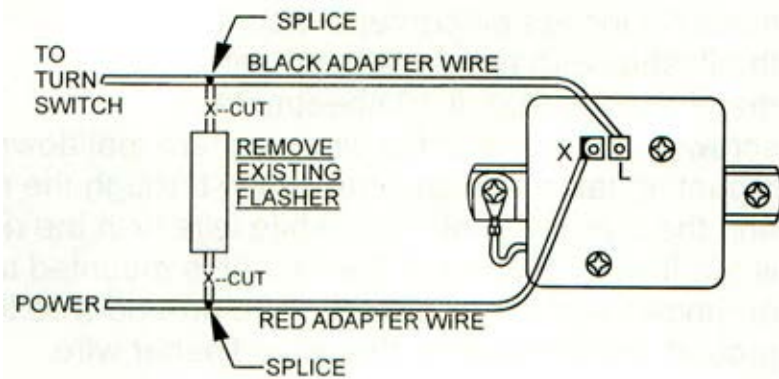

FIGURE 4
3. On existing installations that do not use socket connectors, use adaptor wires to make connections to the turn signal system. Connect male and female portions of the adaptor wires, red to "X" and black to "L". Cut off the large blade terminals of both adaptor wires and splice the red wire to the power source and the black wire to the turn signal switch. (Rear to Figure 4)